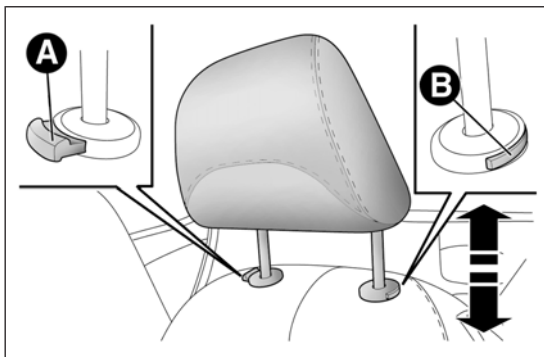

fig. 23
- ☐ downwards adjustment: press button A fig. 23 and lower the head restraint.
- ☐ press buttons A and B fig. 23, then remove the head restraints by pulling them upwards.